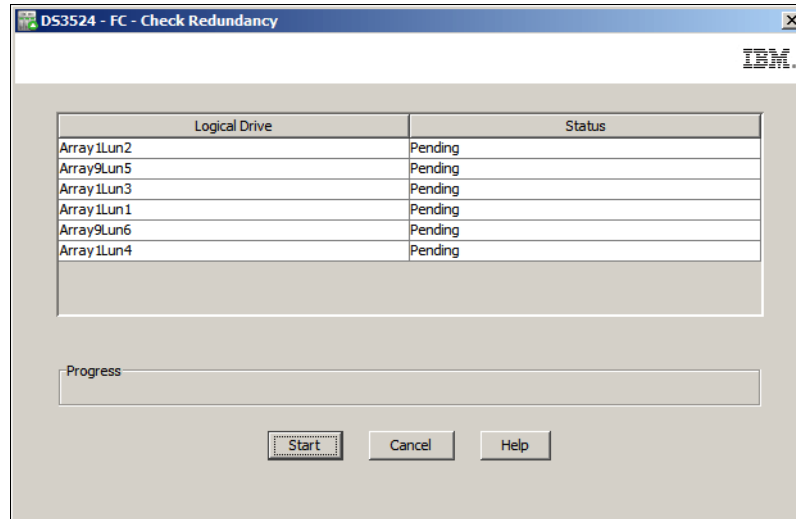

Figure 14-153 Check Redundancy
- Read the information and click the **Yes** button to display the Check Redundancy window as shown in Figure 14-153 on page 434.